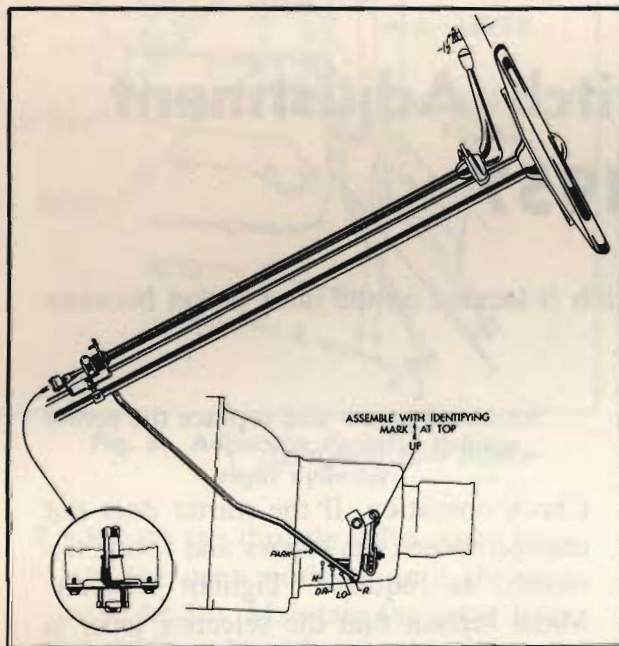

Fig. 9. Control lever to steering wheel clearance
3. Move the selective lever to the Reverse position. Using a scale, check the clearance between the selective lever and the steering wheel rim. The clearance should be $1-1/2''$ plus or minus $5/16''$ (Fig. 9). If the clearance is not within specifications, loosen the lower support clamp bolts and raise or lower as required. Tighten the clamp bolts evenly. Check to be certain that the dowel in the support is located in the slot in the mast jacket.